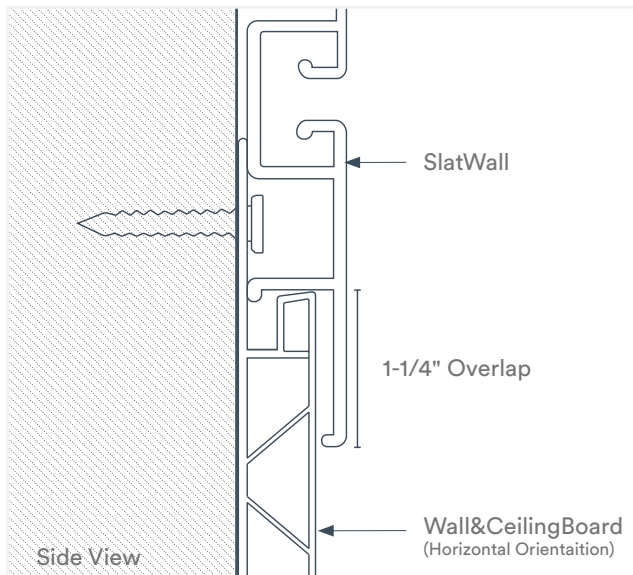
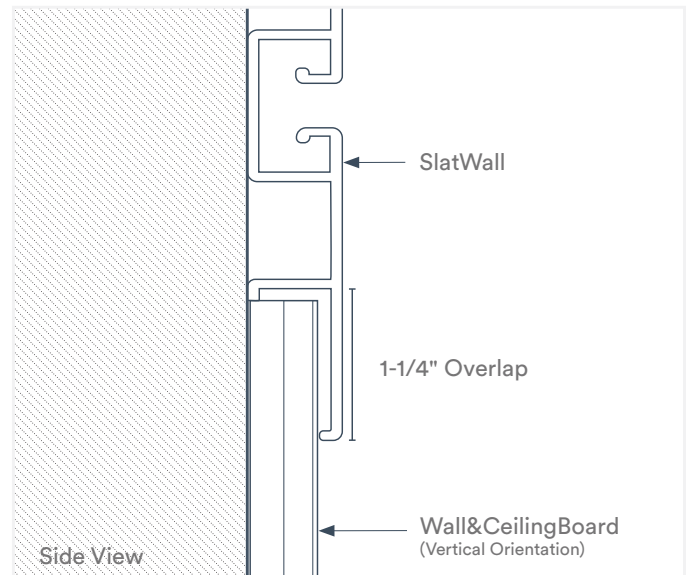

Fig. 5
Fig. 6
- When transitioning from Trusscore Wall&CeilingBoard to Trusscore SlatWall, the bottommost SlatWall panel will overlap the Wall&CeilingBoard panel by approximately 1-1/4". Taking this overlap into account is key to accurately planning for the height of your SlatWall installation. The overlap applies to both horizontal (Fig. 5) and vertical (Fig. 6) Wall&CeilingBoard installation orientations